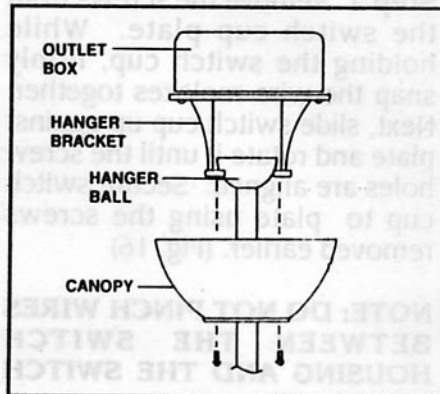

FIG. 13
**Step 2.** Slide canopy up to ceiling. Rotate canopy so that the screw holes are aligned and secure with the two screws provided on hanger bracket. (Fig. 13)